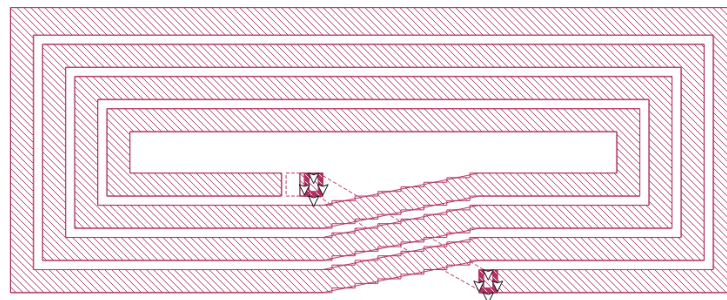

FIGURE 9
- The Sonnet suites professional 17.56 program was utilized to design a rectangular coil with a thickness of 2.5mm, custom-fitted to the Tamiya toy car. The coil design included a gap in the bottom layer to allow for the addition of both an SMA connector and a capacitor as show in Fig.9.